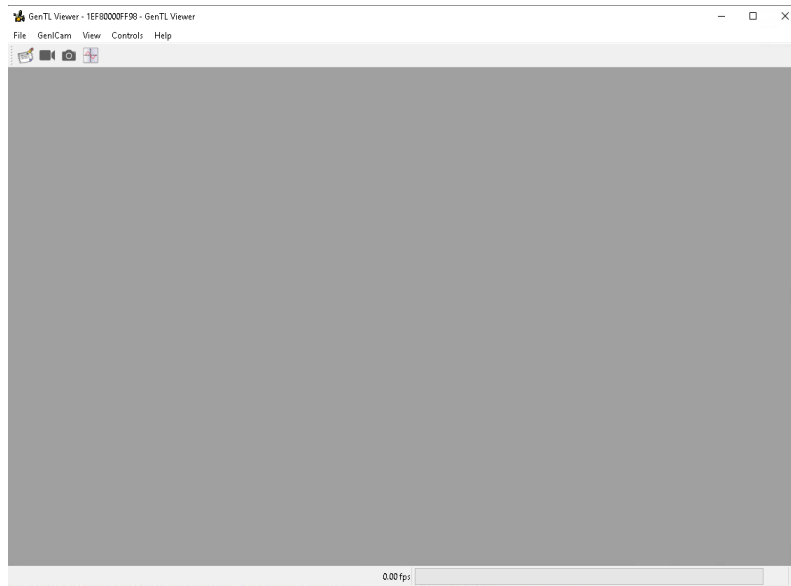

Figure 2 GenTL Viewer
5. Launch the GenTL Viewer software on the PC. A screen similar to Figure 2 should be shown.